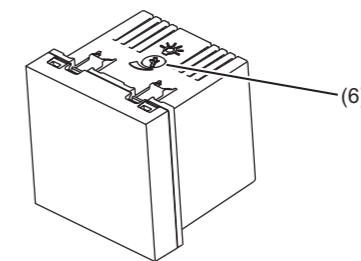

Figure 6: Brightness setting
- Pull off centre plate (5) from the supporting ring.
- Remove frame (2).
- Pull out insert (1) from the flush-mounted box.
- Set potentiometer (6) (Figure 6).
- Position the frame (2) over the supporting ring of the insert (6).
- Snap on centre plate (5).